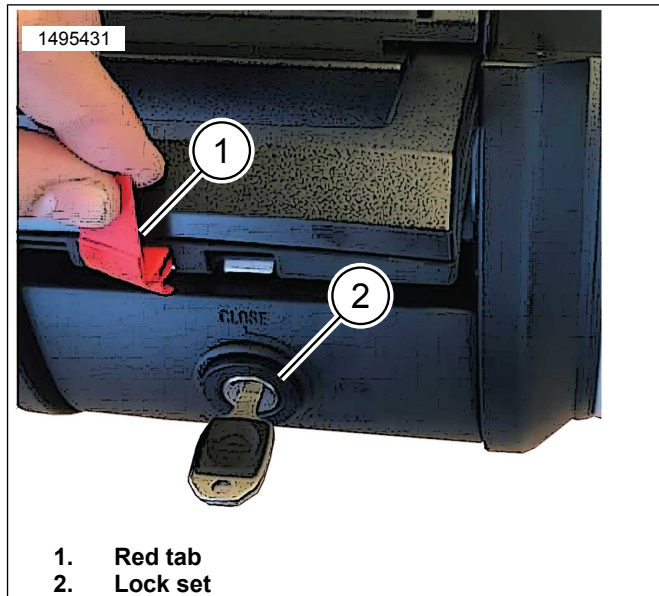

Figure 12. Top case Handle
- Figure 12 Remove red tab (1).